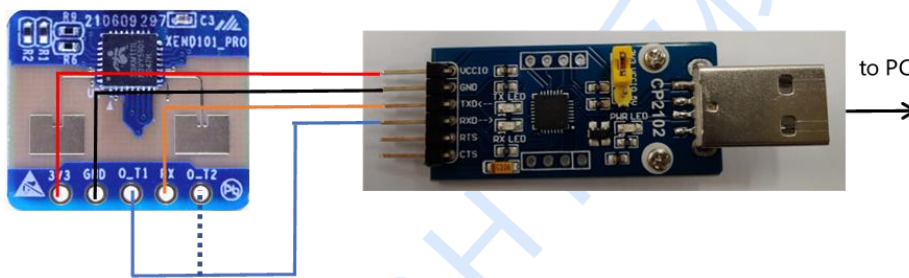
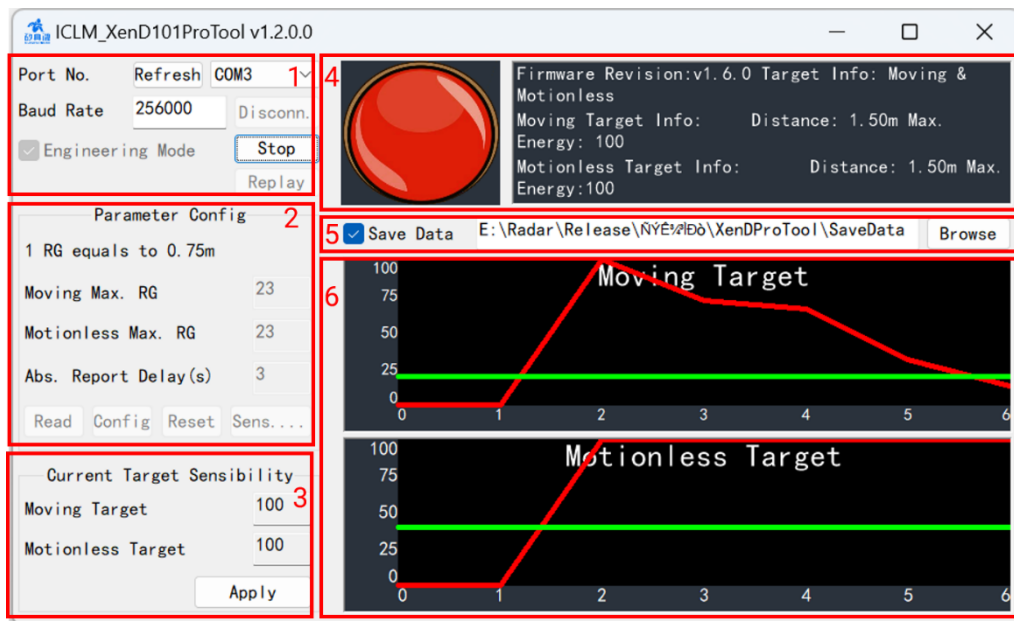

Figure 4-1 Connect XenD101Pro to PC via serial port tool
Figure 4-2 GUI of XenD101 Configuration Tool
Step 2: Connect XenD101Pro to the host PC via a serial port tool, as is shown in Figure 4-1.
Step 3: Double click the `ICLM_XenD101ProTool.exe` to open the GUI, as shown in Figure 4-2.
The GUI of the visualization tool is separated into 5 zones, as is shown in Figure 4-2. They are Port and Data Format Zone (1), Parameter Config. Zone (2), Current Target Sensibility Zone (3), Target and Revision Info. Zone (4), and Engineering Mode Display Zone (5). Their functions are listed below.
Step 1: Connect the radar module to a host PC using a Serial Port to USB board, as is shown in Figure 4-1. Enter the directory of the visualization tool and double click the **ICLM_XenD101ProTool.exe** to open the GUI, as is shown in Figure 4-2.
Step 2: Click the **Refresh** button in Zone (1) to obtain radar port number. If multiple port numbers are obtained, select the one that communicates with the radar.
Step 3: Configure the baud rate as the same with the radar in Zone (1). For modifying firmware baud rate please refer to Chapter 9.
Step 4: Click the **Connect** button in Zone (1), the firmware revision information will be shown in Zone (4), meaning the visualization tool has been connected to the radar successfully.